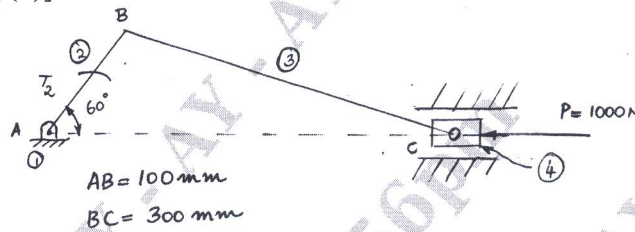

Fig.Q1(b)
- A slider crank mechanism is as shown below. A force of 1000 N is applied to the piston when the crank is at 60° from the IDC. Calculate the driving torque T_2 . Also calculate all forces [Refer Fig.Q1(b)]